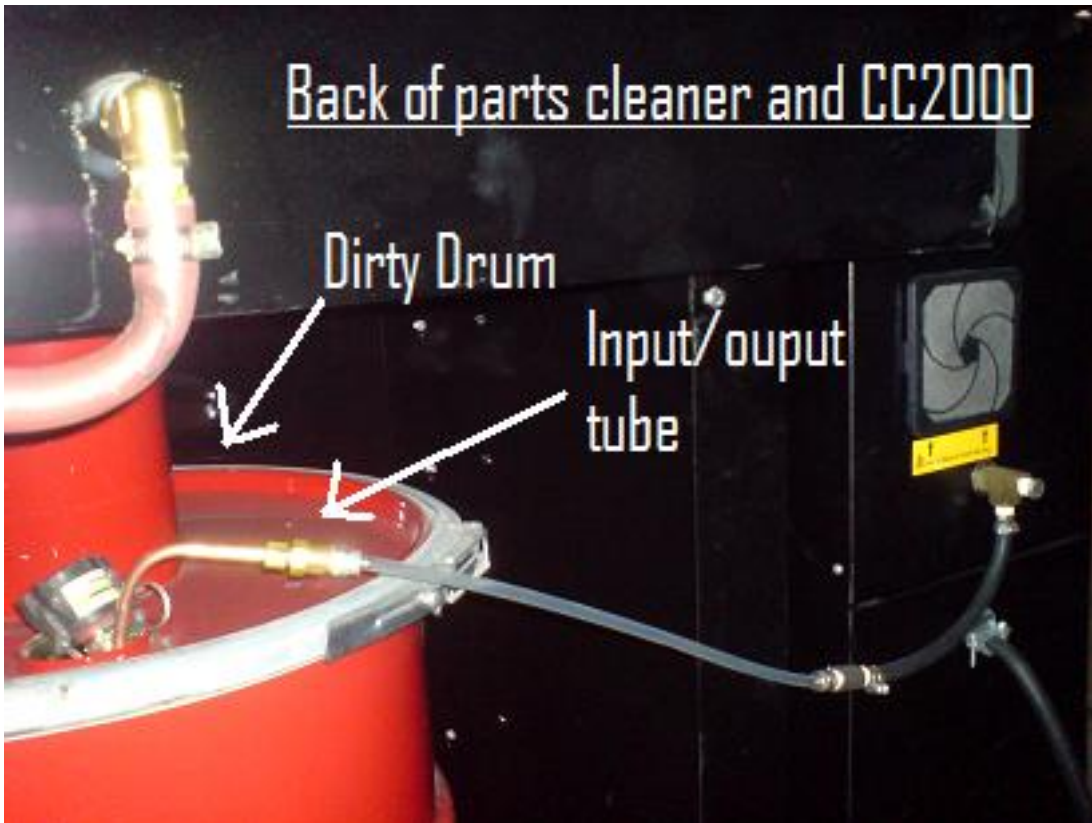

Figure 4: The input/output tube placed inside the dirty drum shown picture taken from behind the parts cleaner and the CC2000.
6. Place input/output tube into the parts washer drum all the way down to the bottom as shown in Figure 4.